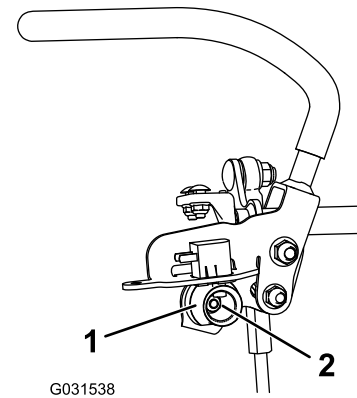

**Figure 69**
3. Push the motion-control levers down out of the NEUTRAL-LOCK position (Figure 69).
4. Check if the right motion-control lever aligns horizontally with the left motion-control lever (Figure 69).